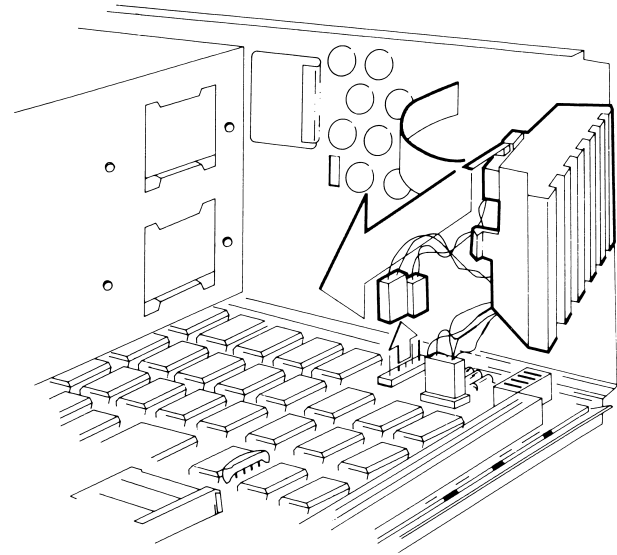

Figure 7-27. Removing the Speaker/Board Guide Assembly.
3. Remove the speaker/board guide assembly by pushing the plastic catch on the right front of the chassis and rotating the assembly away from the chassis (Figure 7-27).